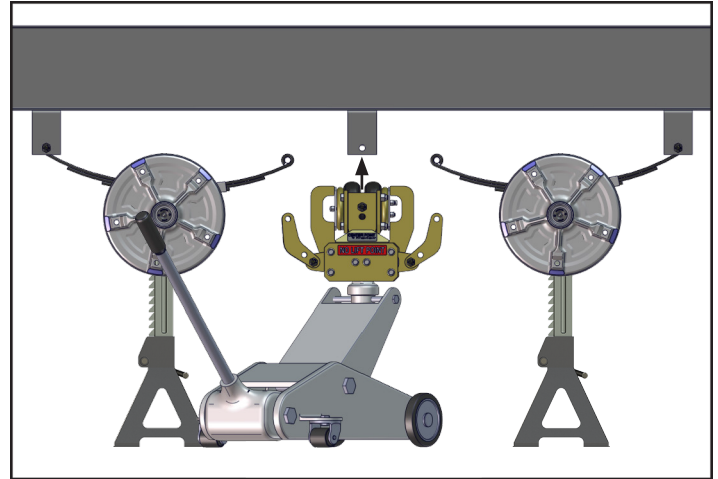

Fig.5
1. Raise the sub-assembly to the frame hanger (Fig. 5) and insert the cross shaft bolt (Fig. 6A).